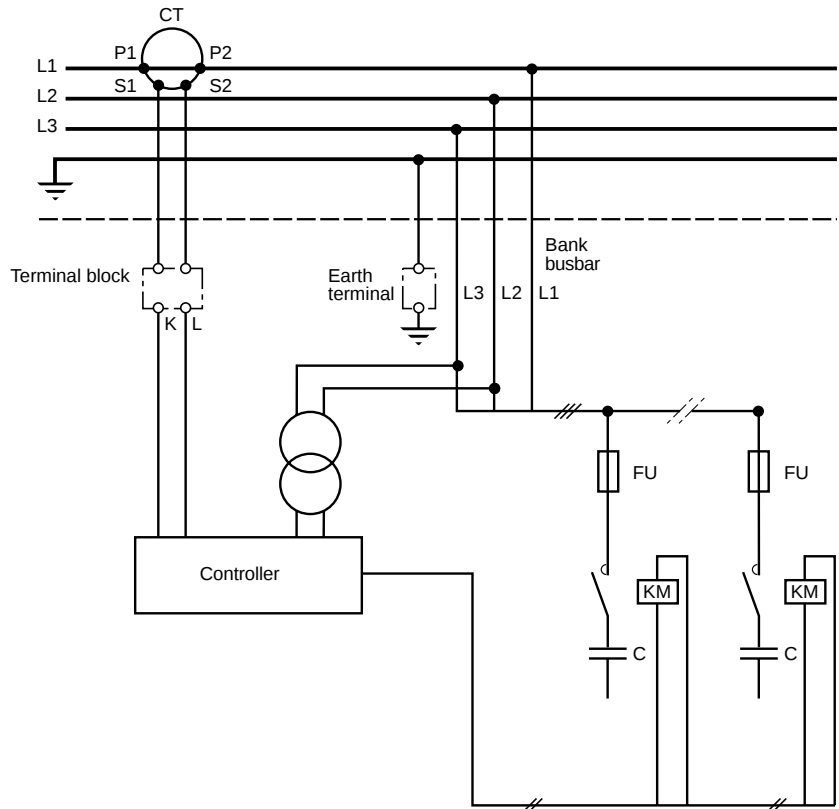

Fig. 10 Schematic wiring diagram, standard type cubicles
Electrical connection is based on the wiring diagrams (page 18, fig. 10 and 11). For power connection, a protective device must be provided in some cases.
- connect the information from the CT, S1 on terminal K and S2 on terminal L of the terminal block (fig. 10, 11 and 12).